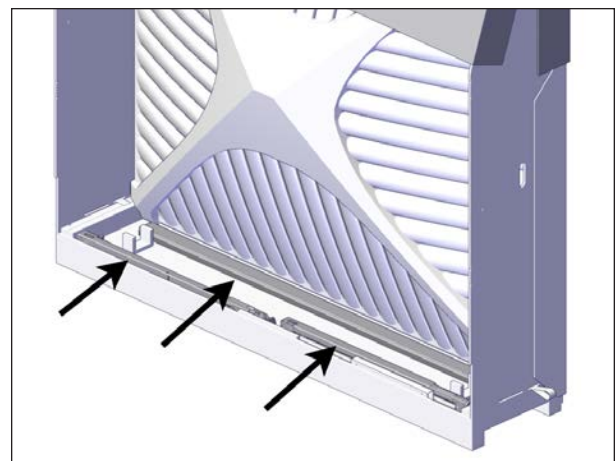

FIGURE 26: JACK AND U-FRAME REMOVAL
13. Remove the two long U-frames, the two short U-frames and both jacks located at the bottom of the crate. Keep these components in a safe location see Figure 26.